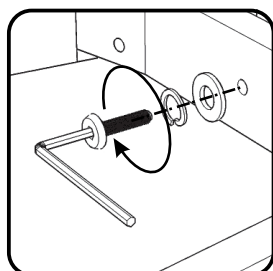

Figure 3
Attach Back Frame (D) to unit with Flat Washers, Spring Washers, Head Cap Bolts (short) and Head Cap Bolts (long), tightening bolts only halfway. (See Figures 3 and 4)